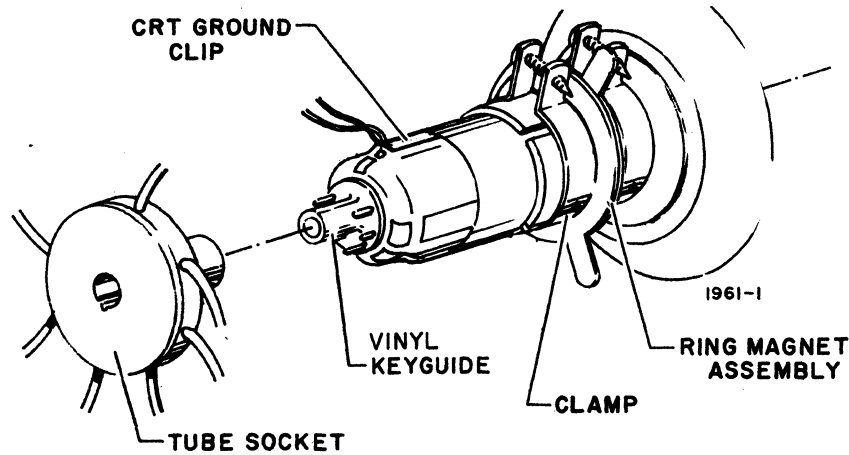

Figure CRT22. CRT Tube Socket Removal
- 6) Pull crt tube socket carefully off end of crt (figure CRT22). Do not remove vinyl keyguide.
- 7) Loosen ring magnet assembly mounting clamp, remove crt ground clip and ring magnet assemblies (figure CRT22).*